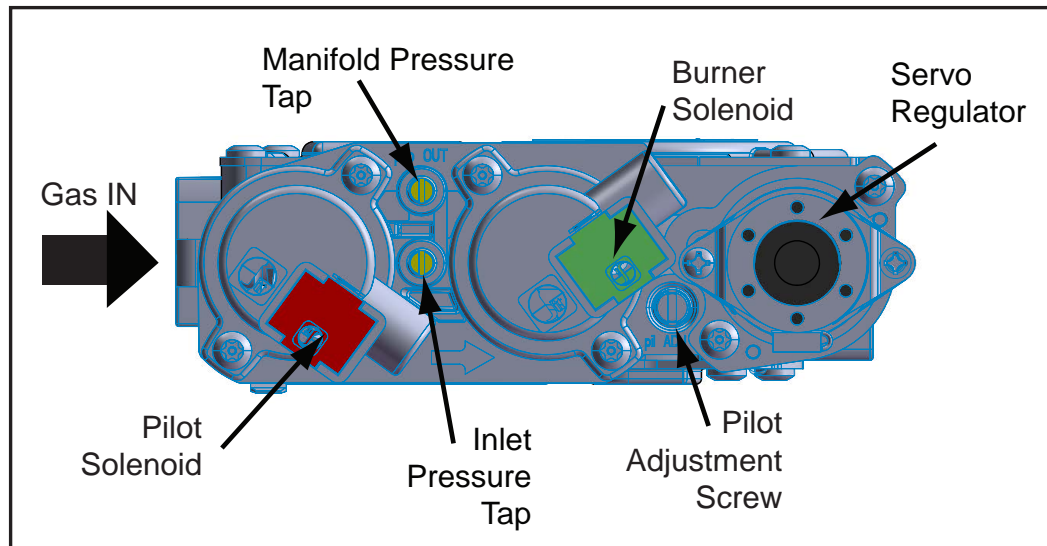

Figure 34: Fully Labeled Gas Valve.
The pressure taps are located on the valve shown in Figure 34.
1. The adjustment screw can be reached through the front of the unit using a 10 inch long blade head screw driver (see Figure 34 for location on valve).